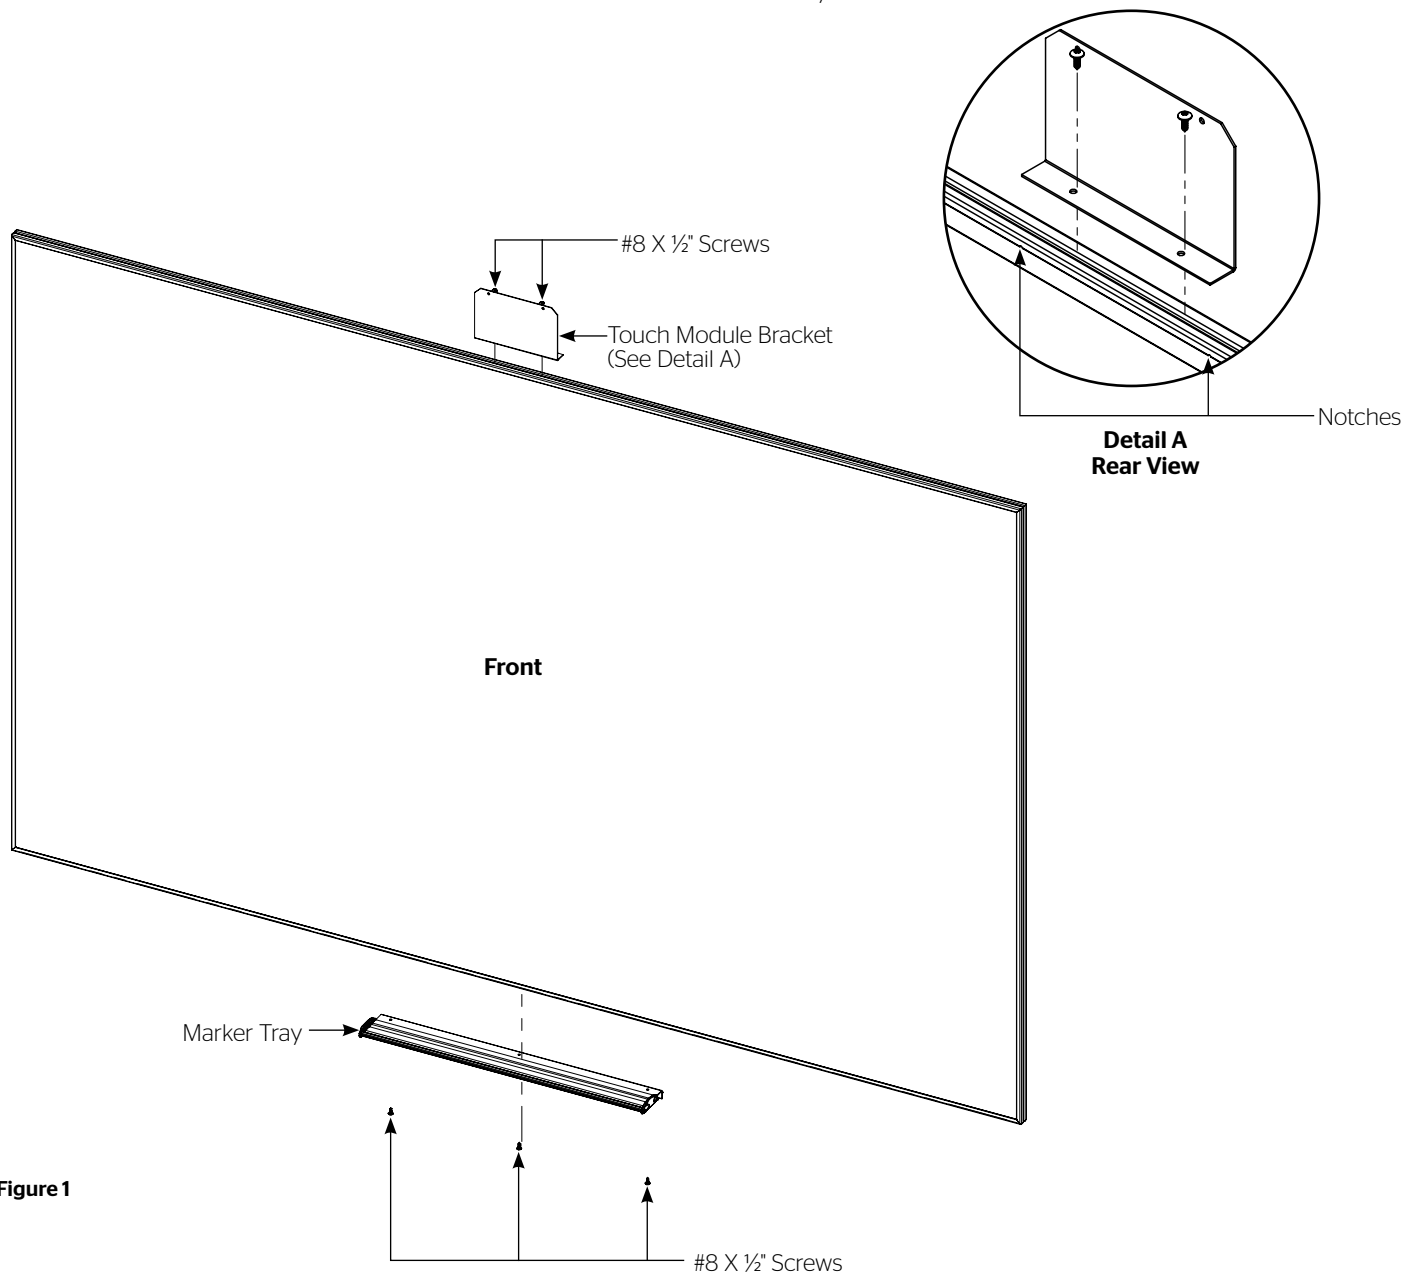

Figure 1
2. Center marker tray to the bottom of frame and attach with (3) of the provided #8 x 1/2" screws. Insert screws through the tray into the groove (Figure 1).
3. Position the touch module bracket along the top of the IDEA Screen by locating the two notches along the back side of the frame. Using (2) provided #8 x 1/2" screws, attach the bracket to the IDEA frame with the touch module facing towards the audience. The front of the touch module bracket should be flush with the screen surface (Figure 1)